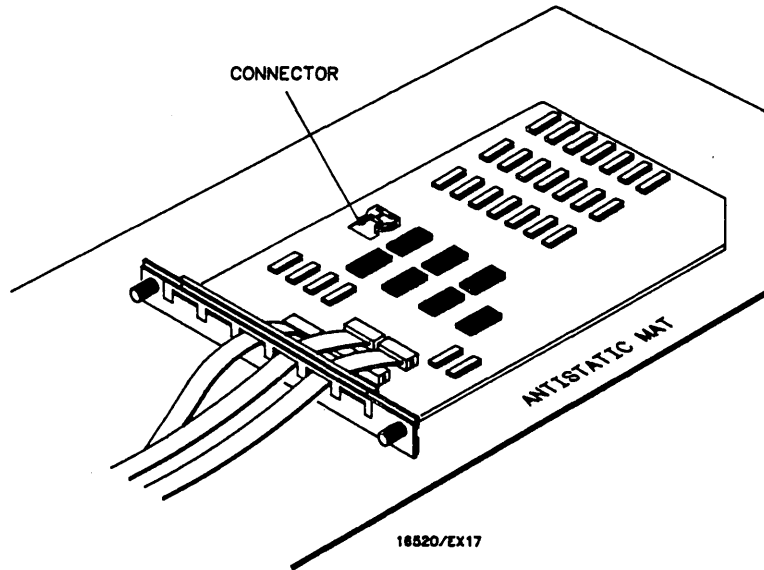

Figure 6-17. Card On Antistatic Mat
- e. Lay card on antistatic mat with cable(s) flat and pointing out to rear of card. See figure 6-17.